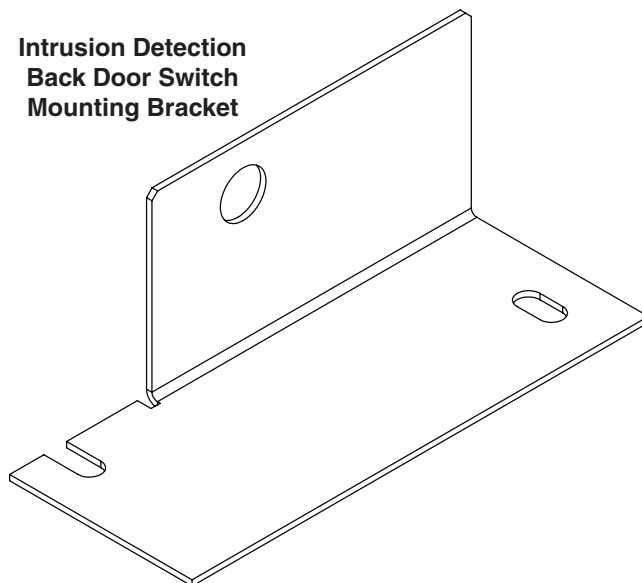

Figure 26 Intrusion Detection Back Door Switch Mounting Bracket
- One back door switch mounting bracket (see detail Figure 26)